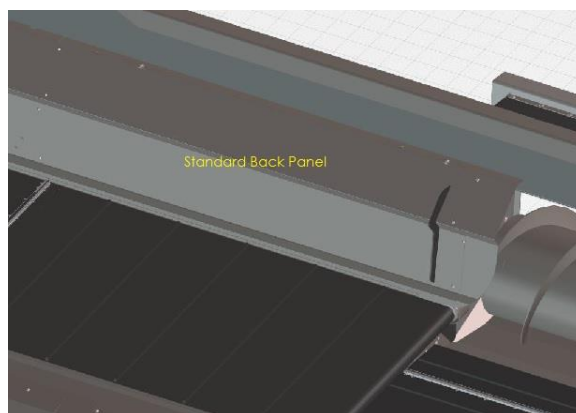

Figure 329
2. The standard back panel is an option for a straight panel. In most standard crops it will keep material flowing to the center draper without bunching. Figure 329